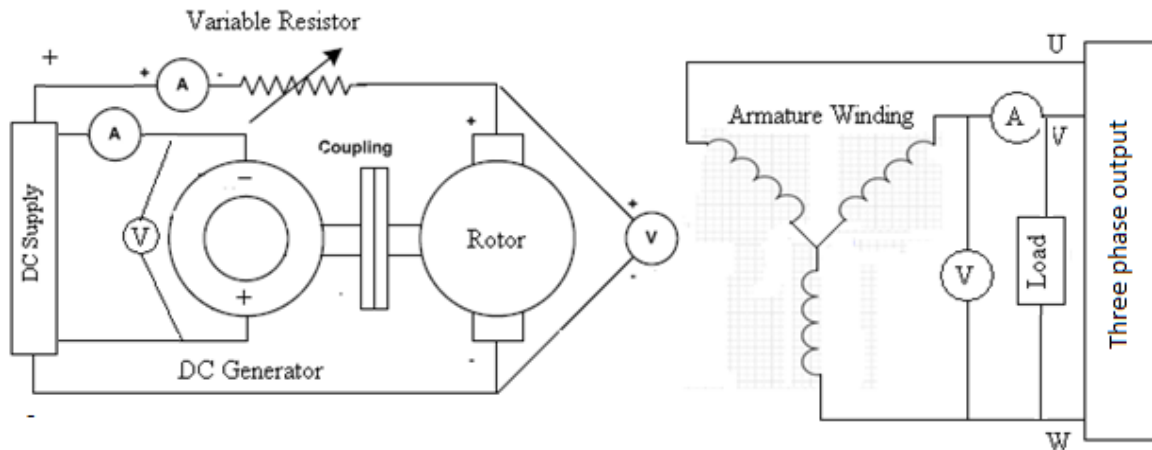

Figure 9.1: Voltage regulation of synchronous generator
The circuit diagram for determination of synchronous generator is shown in Figure 9.1
1. Connect the circuit as shown in Figure 9.1.